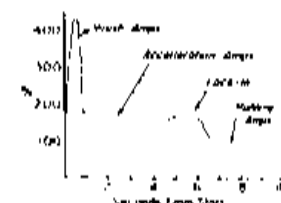

Fig. 3
4. Push start button. Observe motor current during load acceleration and number of seconds required to reach full speed (Fig. 3).